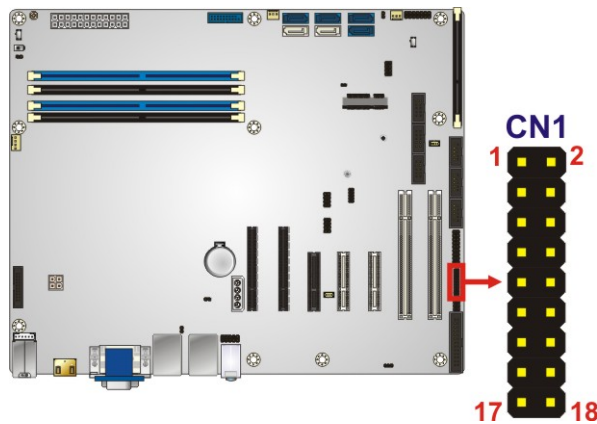

Figure 3-9: EC Debug Connector Location
- CN Location:** See **Figure 3-9**